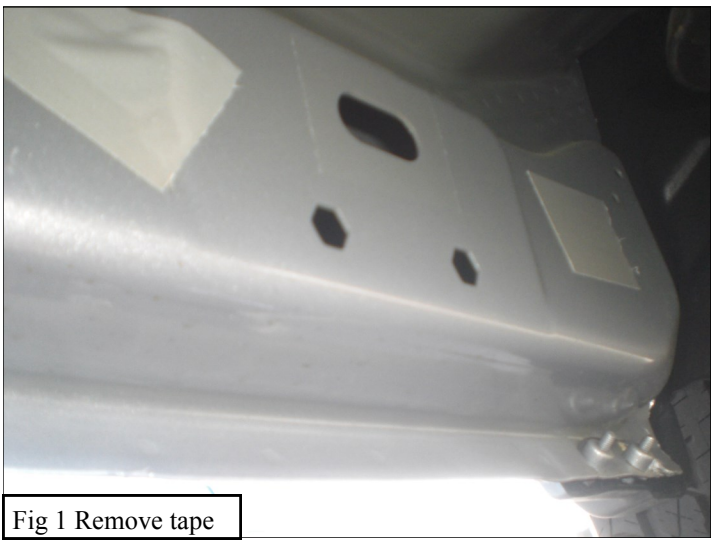

Fig 1 Remove tape
2. Starting on the drivers side of the vehicle, locate the square tape covering the factory holes in the rocker panel *FIG 1*. Insert (1) M12 bolt plate (item 5) into the rocker panel and thread on (1) plastic retainer (item 9) to the M12 bolt to keep it from falling into the rocker panel *FIG 2*.